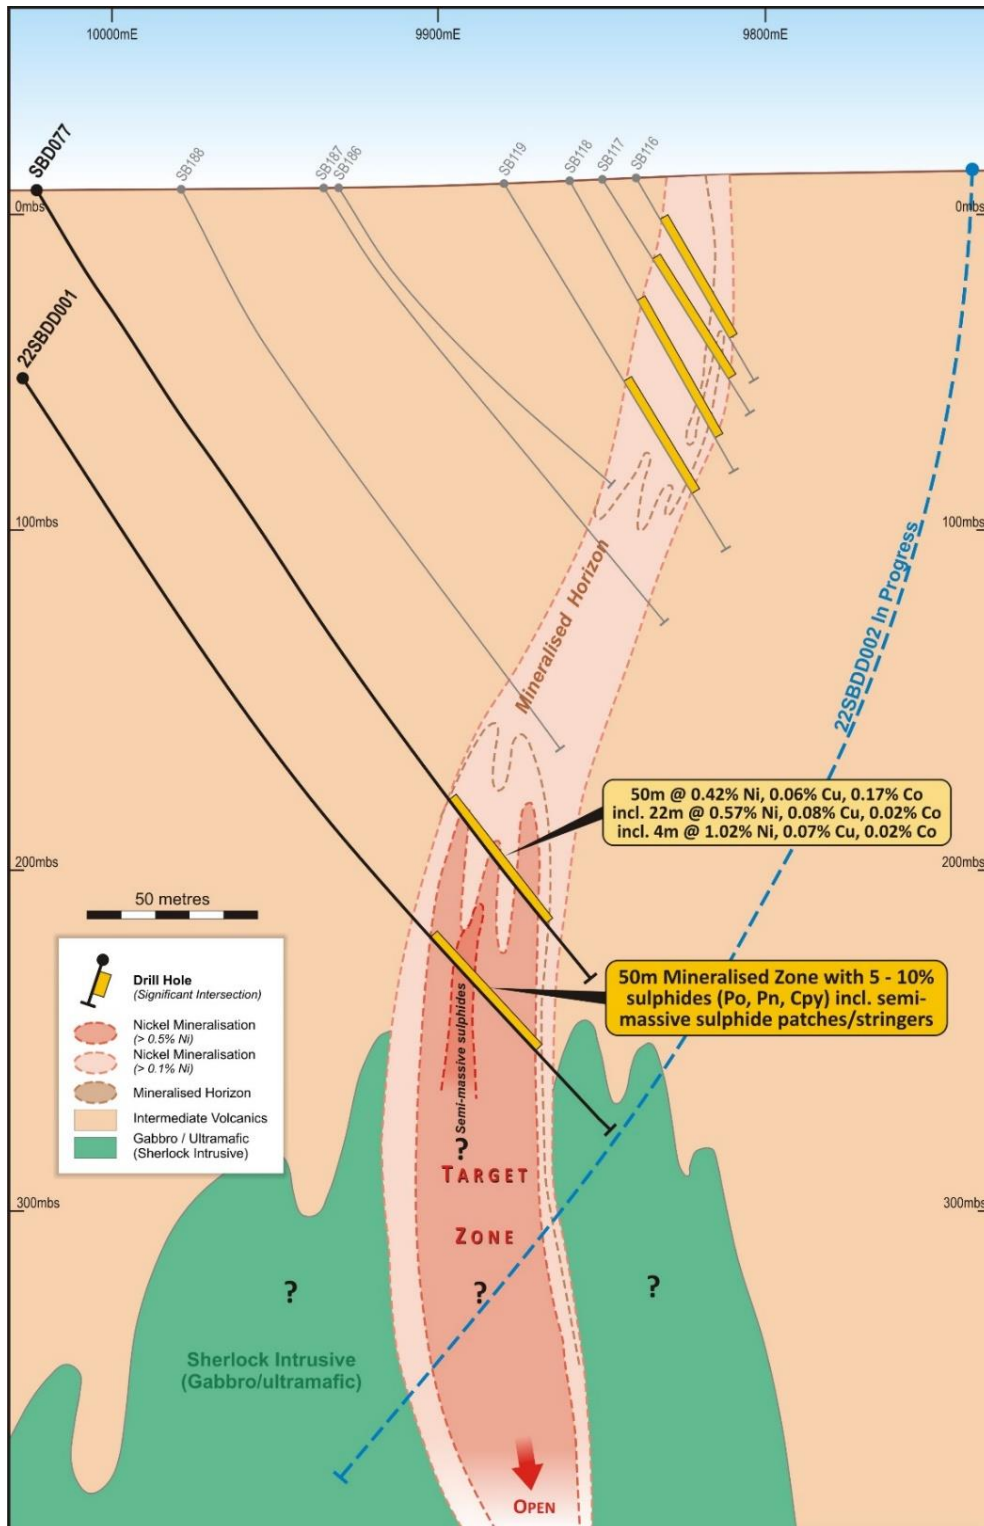

Figure 2: Sherlock Bay nickel deposit, cross section 19,600mE with Target Zone and drilling completed and in progress
Sabre Resources Ltd (ASX: SBR) is pleased to announce that the first new diamond drillhole at the Sherlock Bay Nickel-Copper-Cobalt (sulphide) Project, 22SBDD001, has intersected a 50m zone of nickel sulphide mineralisation including zones of semi-massive pyrrhotite and pentlandite (nickel sulphide). Significantly, the 50m intersection is to the west and down plunge of previous nickel sulphide intersections where an electromagnetic (EM) anomaly² has highlighted the potential for higher-grade to massive nickel (copper, cobalt) sulphides at depth (see longitudinal projection, Figure 2 and cross section 19,600mE, Figure 2 below)^{1,2}.
The next diamond drillhole, 22SBDD002 - in progress (see Figure 2), is testing for extensions to the semi-massive (to massive) sulphide mineralised zone at depth, below the 50m intersection in 22SBDD001. The hole will be continued to test for the Sherlock Intrusive² that is intimately associated with the Sherlock Bay nickel sulphide resource⁴.